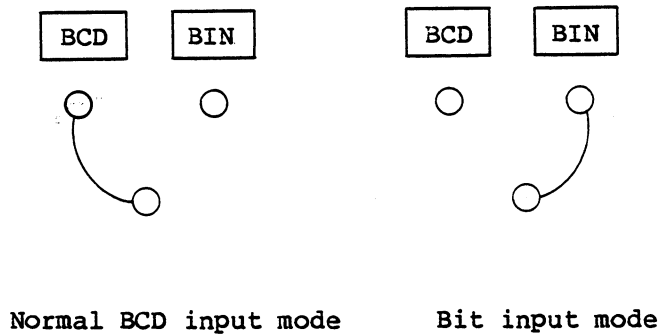

Fig. 6-3 Jumper connection for bit mode
- ③ If the option card is to be used in the bit mode, connect the jumper wire shown in Figure 6-2 as shown in Figure 6-3.